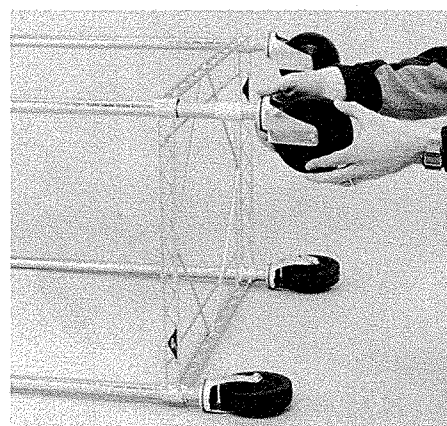

Fig. 3
5. Take one of the frames and standing it on one of its sides, insert a post from the under side of the frame. (Fig. 3). Repeat this operation for the other three posts.